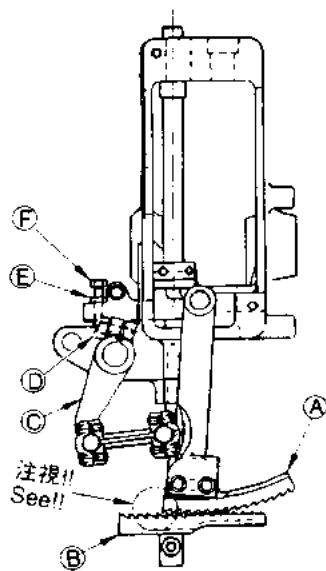
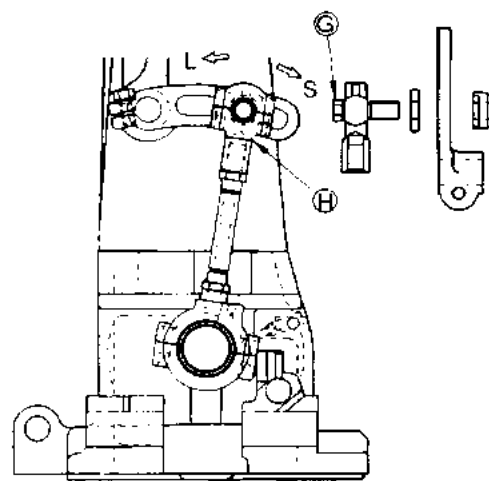

Fig.16
Fig.17
4-11. Setting the Upper Feed Dog (Fig.16 Fig.17)
- 1) Loosen the screw ① on the drive lever ②. Adjust the upper feed dog ③ so that the tip of its heel meet the middle position between the 5th tooth and 6th tooth from the rear on the lower feed dog ④. (Fig.16 marked See!!)
- 2) The upper feed dog moves along by the ditch in the presser foot. The upper feed dog ③ must be in the lowest position when the lower feed dog ④ is in the highest position. At this time, a bit clearance should exist between the upper and lower feed dog. Never push each other the upper feed dog and the lower feed dog.
- 3) To adjust the bit clearance between the upper and lower feed dog, Loosen nut ⑤ and adjust by the screw ⑥. After the adjustment tighten nut ⑤. (Fig.16)
- 5) Loosen the ball stud ⑦. Pull the drive eccentric upper to this side (S) in order to decrease the stroke, push it to opposite side (L) in order to increase the stroke. (Fig.17)
4-11. 上送り金の設定 (Fig.16, Fig.17)
- 1) 上送り金③の位置は、Fig.16で示す通り上送り金の歯が、下送り金歯の歯の5枚目と6枚目の中間にくるよう上送りレバー②のネジ①を緩めて調整してください。(注視参照)
- 3) 上送り金と下送り金との隙間調整は、Fig.16のナット⑤を緩めてネジ⑥を廻して調整してください。
- 5) 調整はFig.17のボールネジ⑦を緩め上送りロッド⑧を手前に動かす(S方向)と送り量は細くなり、逆に動かす(L方向)と粗くなります。